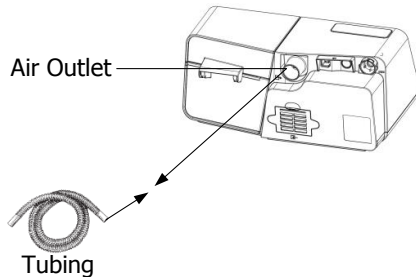

Fig. 11-8
(1) Connect one end of the tubing to the air outlet of the device, as shown in Fig. 11-8.